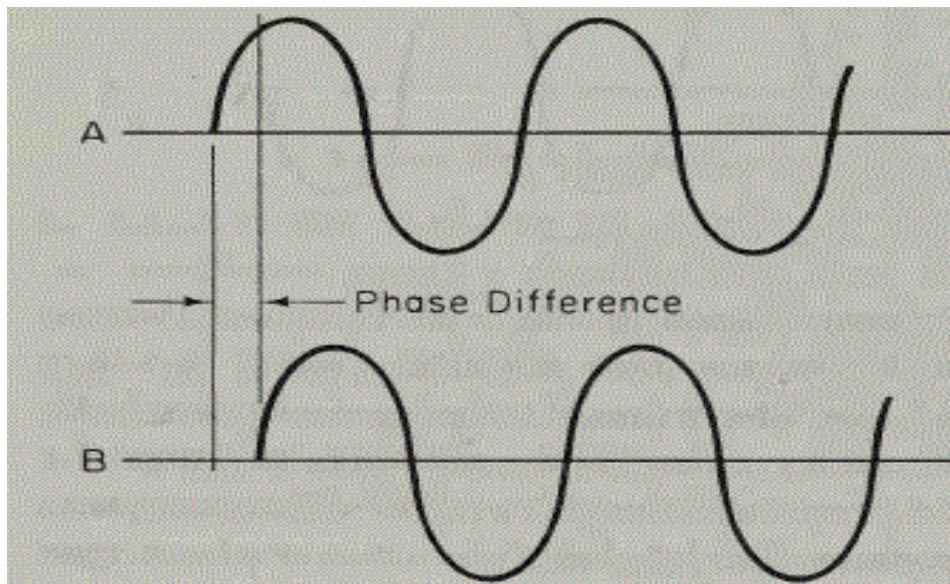

Figure 7-38 Two sine functions of the same frequency with a phase difference.
•The oscilloscope is well-suited and indispensable for time and phase measurements. As an example, assume the phase angle between two sine functions is to be measured as shown in Fig. 7-38. A very simple and effective method is to display the two sine functions as two separate traces on a dual-trace oscilloscope and measure the time delay between the two sine functions. When using this technique, it is imperative that the oscilloscope be triggered only from one of the two waveforms. This can be accomplished by setting the triggering source switch to either channel 1 or 2 or externally triggering the oscilloscope. Mixed, composite, or both modes of triggering allow the oscilloscope to be triggered by both of the two input signals and will not provide a suitable time reference.